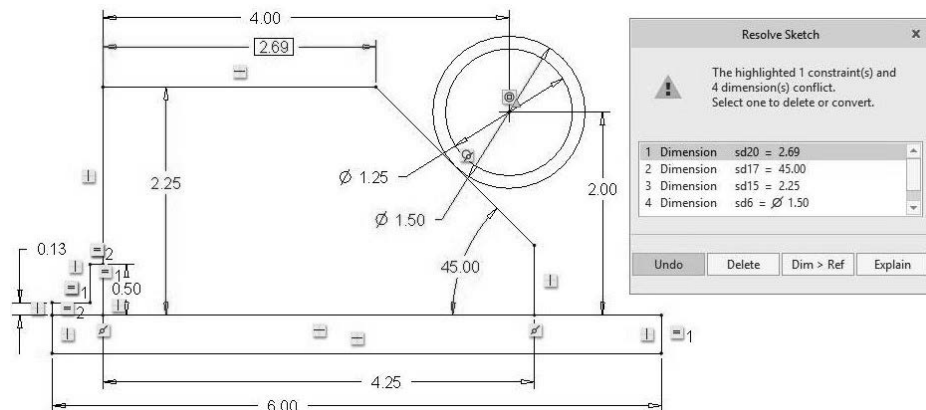

Figure 3-56 Resolve Sketch
Step 16: *Select* the horizontal line at the top of the jig with the LMB. Move upward a bit, then press the MMB to locate the dimension. Note that a “Resolve Sketch” window appears. See Figure 3-56. This appears because the sketch as defined is completely defined and we are trying to add another dimension. One constraint and 4 dimensions must be modified. A reference dimension is a dimension shown on a sketch that is not necessary to define the sketch. When the window appears, be sure the new dimension is highlighted, then *pick* the **Dim>Ref** button. *Pick* **OK**.